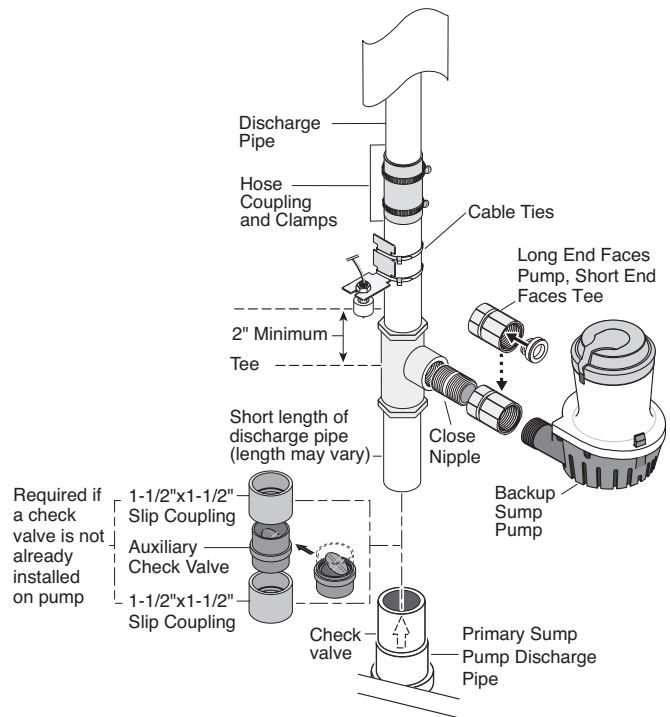

FIGURE 5: METHOD B INSTALLATION
1. Make a second cut in the discharge pipe at the pencil mark made in Step 1 and set the cut-off piece of discharge pipe aside. See Figure 5.
NOTE: There must be a check valve installed in the Primary Sump Pump discharge between the tee and the Primary Sump Pump. This will prevent recirculation into the Primary Pump when the Back Up Sump Pump comes on. See Figure 5.